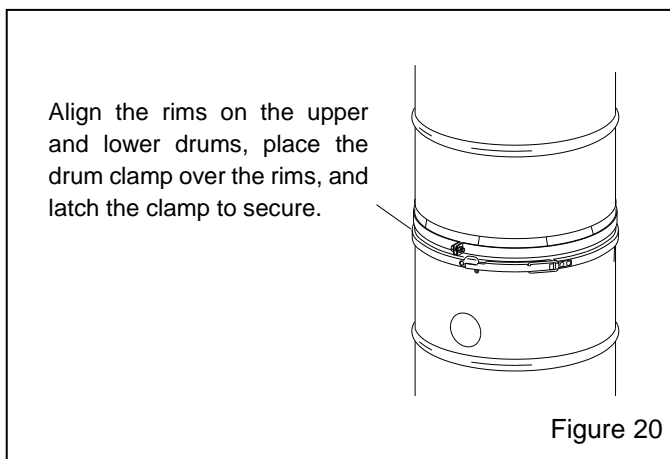

Figure 20
9.8.9 Place the bag clamp ring over the bag and tighten the clamp bolt to secure. **NOTE: Make sure there is enough space between the clamp ring and drum rim to attach the drum clamp and connect the upper and lower drums, as shown in Figure 20.**
**9.8.11** Refer to Figure 20 and align the rims on the upper and lower drums, place the drum clamp over the rims, and latch the clamp to secure